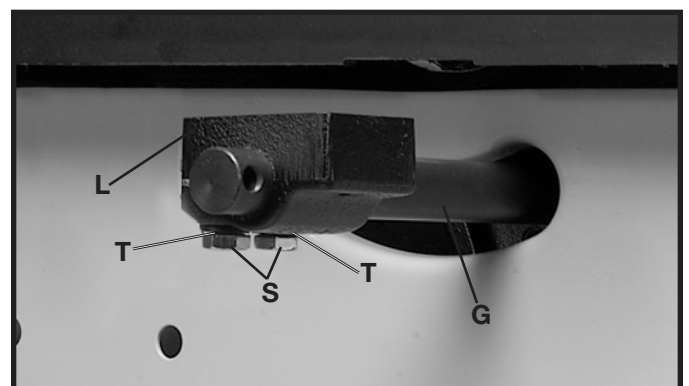

Fig. 21
7. Assemble lower bracket (L) Fig. 21, to rod (G) and loosely tighten with two 5/16-18x1" hex head screws (S) and 5/16" lockwashers (T) from underneath bracket (L).